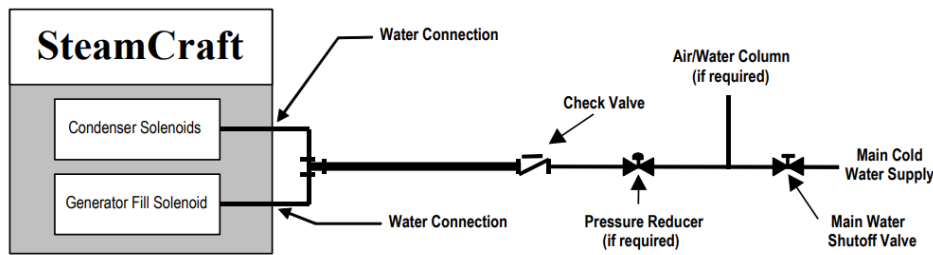

Figure 3-7 Cleveland Range Single Water Supply Arrangement
- If the supply water meets the requirements shown in the Warranty, then the Single Water Supply Arrangement shown in Figure 3-7 may be used.